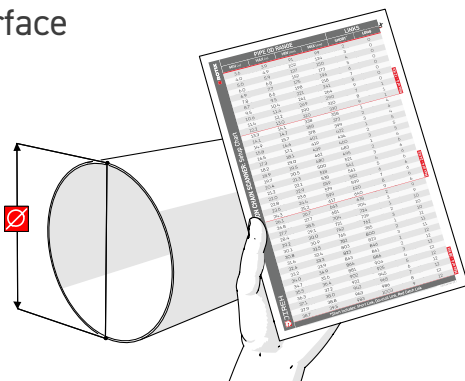

Fig. 68 - Refer to setup chart
1. Determine the diameter of the pipe or tube to be scanned. Included in the **ROTIX** kit and this manual is a setup chart indicating the number of links required based on the diameter of the pipe or tubing (Fig. 68).